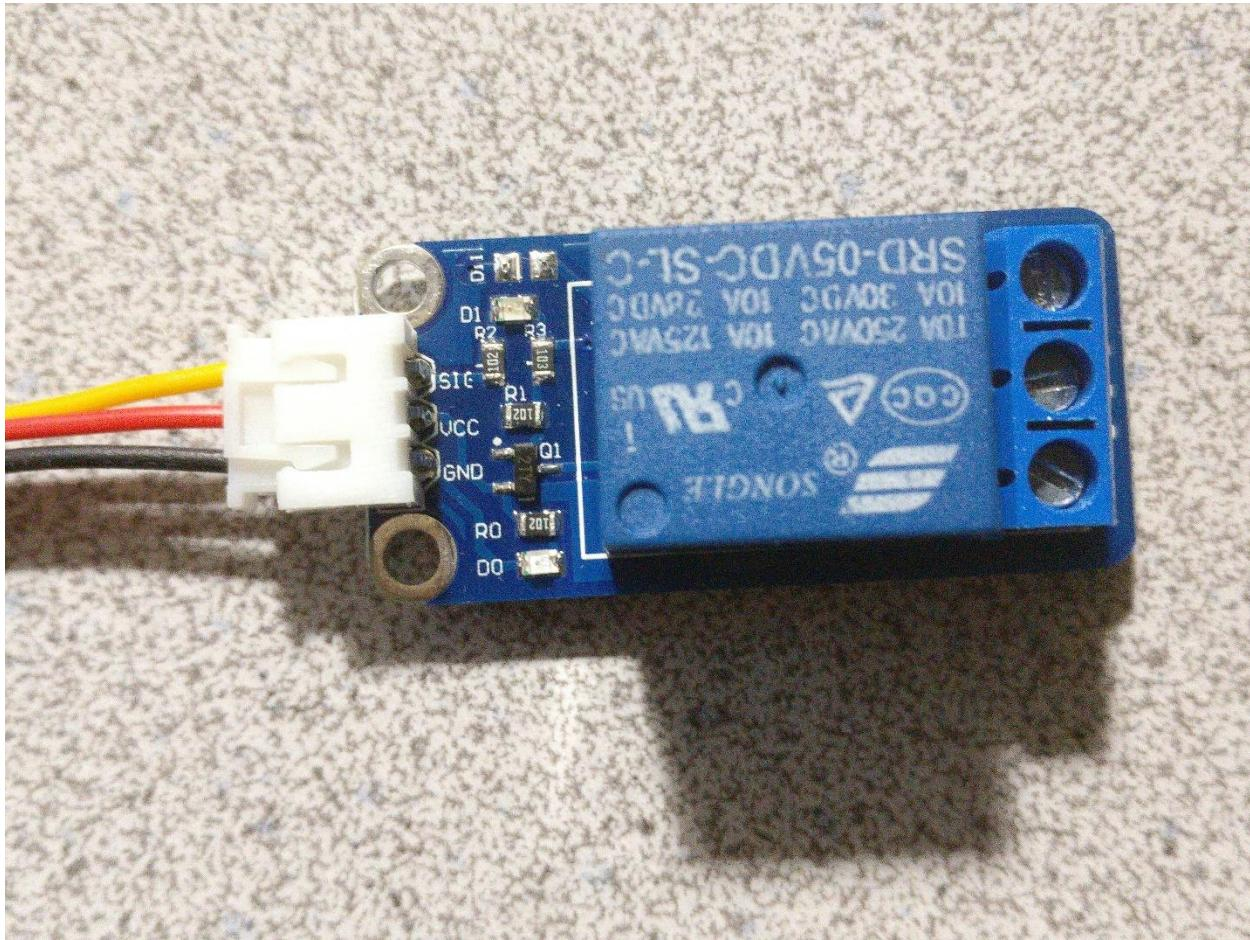

Figure 8-15 – 3-wire male-to-female wire connected to Relay Module (LOW)
- a. Connect the female end of one of the 3-wire male-to-female wires to the relay module as shown in Figure 8-15.